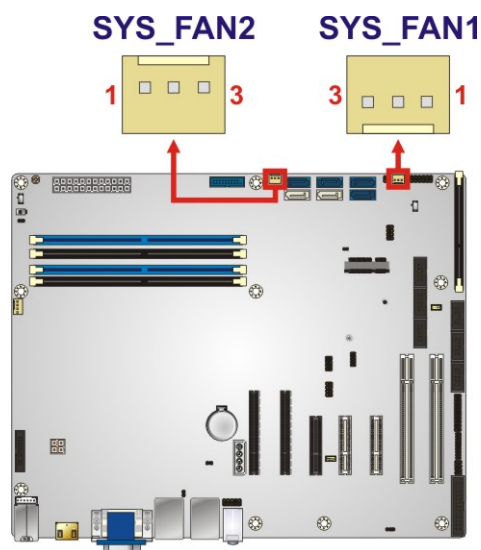

Figure 3-11: System Fan Connector Locations
- CN Location:** See Figure 3-11